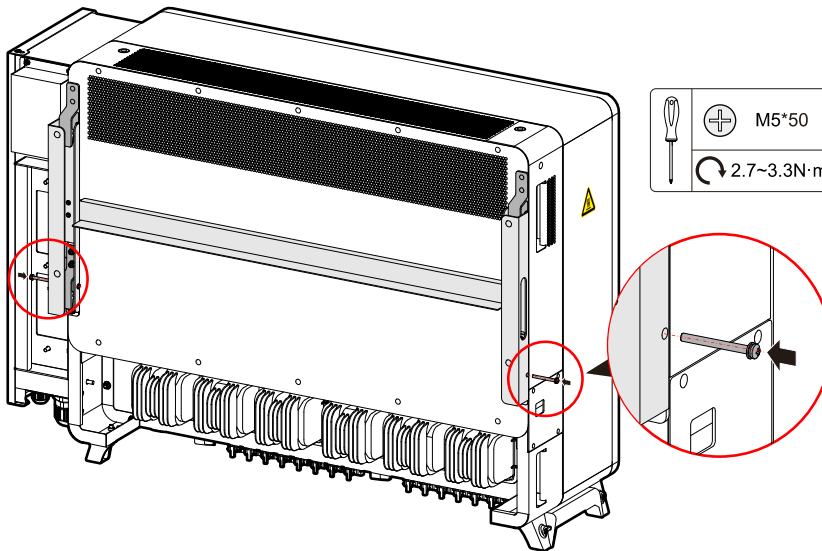

Figure3-17 Fix inverter
Step 6 Use the screws M5*50 in the accessories to fix the inverter, as shown in Figure3-17.